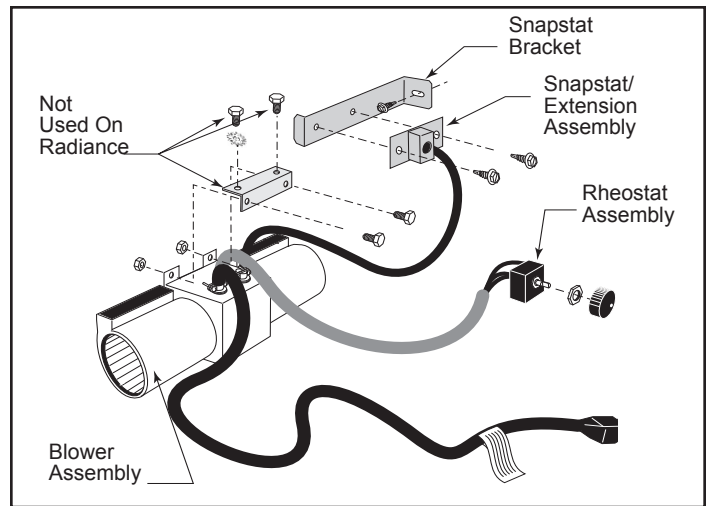

Figure 3.1 - Fan kit components.
1. The fan kit includes a Blower Assembly and a Rheostat Assembly, connected by a cable. (Figure 3.1) The Blower Assembly mounts to the bottom rear of the stove, and the Rheostat mounts to the valve cover plate. The assembly includes a 'snapstat' which automatically turns the fan On (or Off) above (or below) approximately 109°. The Rheostat also provides a range of fan speed settings from Off (which overrides the snapstat function) to High. Unpack and inspect the Blower assembly. Confirm that the fan spins freely.